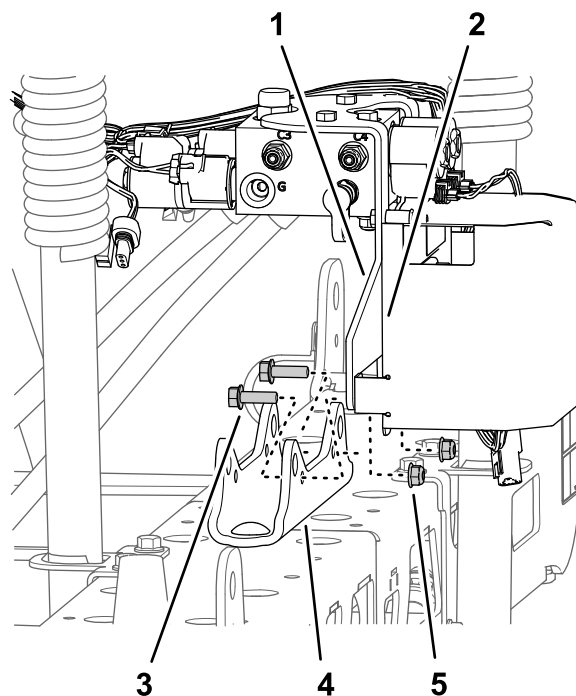

Figure 42
- **For machines with the optional ultra sonic boom leveling kit:** Remove the 2 flange locknuts (5/16 inch) and 2 flange-head bolts (5/16 x 1 inch) that secure the support bracket for the section-lift manifold and the TEC controller bracket to the cylinder mount, and separate the manifold and bracket from the cylinder mount (Figure 42).